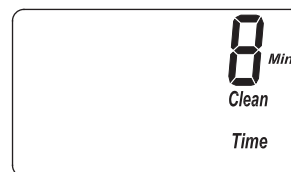

FIG. 29
1. Press and hold the PROGRAM button until the screen in Figure 25 is displayed. Once in this display, press the PROGRAM button three times and the display in Figure 29 is shown.